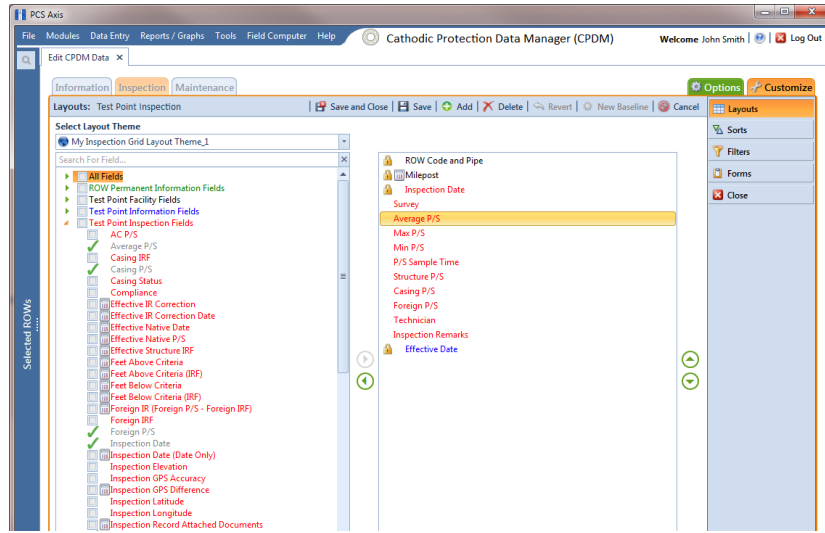

Figure 8-19. Layouts
- 4 Double-click  **Test Point Inspection Fields** in the left pane of the window to view a list of fields available for selection (Figure 8-19).